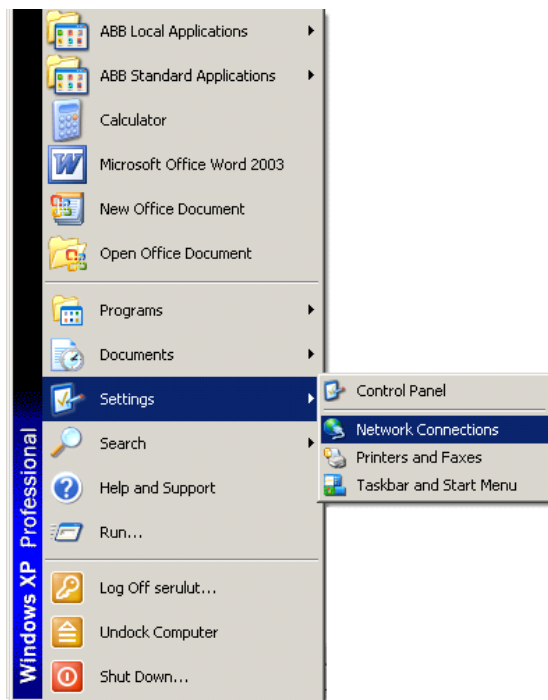

Figure 3: *Select: Network connections*
1. Select *Network Connections* in the PC, see Figure 3.